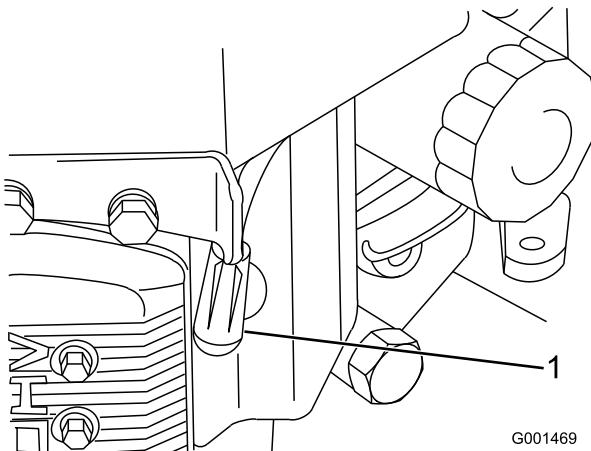

Figure 24
- Disconnect the wires from the spark plugs (Figure 24).